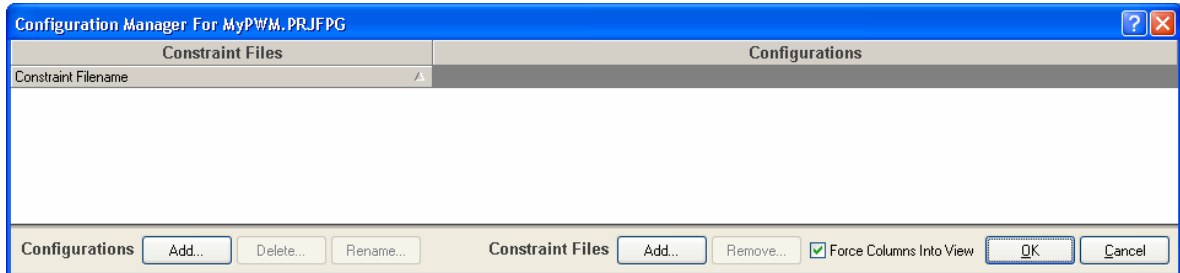

Figure 25. Configuration Manager with no Constraint Files or Configurations defined.
1. Right click on the MyPWM.PRJFPG in the **Projects** panel and select *Configuration Manager* from the menu. The *Configuration Manager* should be empty as depicted in Figure 25.